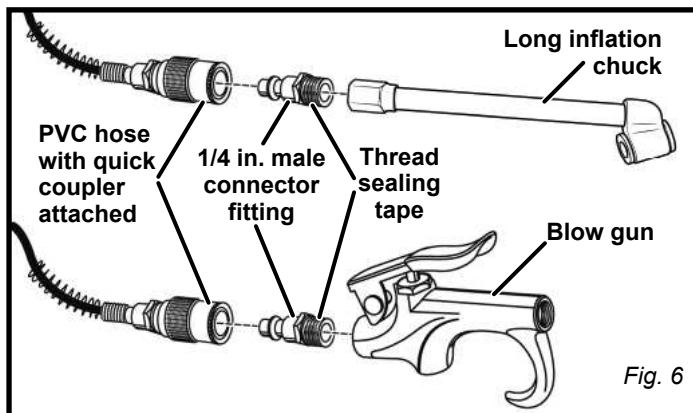

Fig. 6
- Apply thread sealing tape to male threaded end of the male connector fitting. Attach 1/4 in. NPT male connector fitting to accessory or tool you intend to use (see fig. 6).
- Connect the air powered tools to the air hose by inserting the male quick-connect plug to the quick-coupler at the end of the hose (see fig. 6).